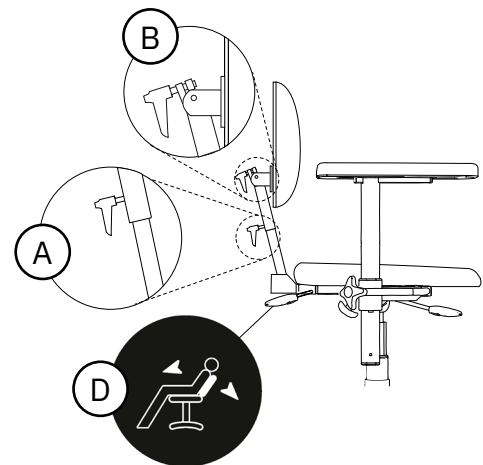

Figure 5.27. Comfort backrest mechanism.
Standard can be adjusted in height (A), angle of backrest (B) and angle of back recliner (C), see Figure 5.27. The gas spring-controlled back recliner can be adjusted with the lever under the seat (standard) or the lever under the armrest (optional). The back recliner can be adjusted in the range of 3° forwards to 40° backwards.